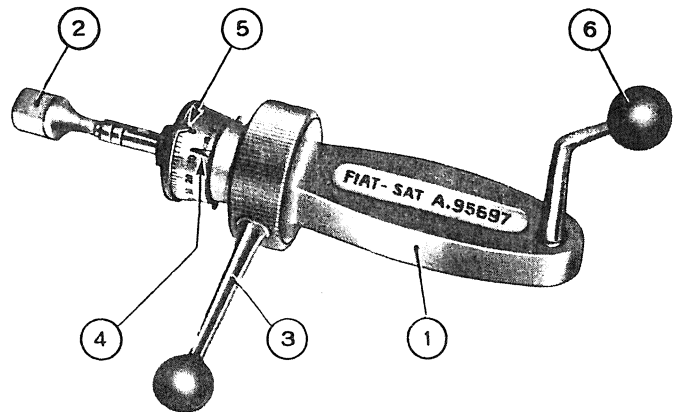

Fig. 311 - Bearing rotation torque dynamometer.
To check the rotation torque, proceed as follows. Install support A. 95697/3 on wheel drum. Insert the shank (2, fig. 311) of dynamometer A. 95697 in support and grasp lever (3).
Move the needle (4) to register .36 ft.lbs (5 kgcm) on dynamometer scale, as shown in fig. 311 and, using the lever (6), rotate the dynamometer and the wheel shaft some turns, clockwise.